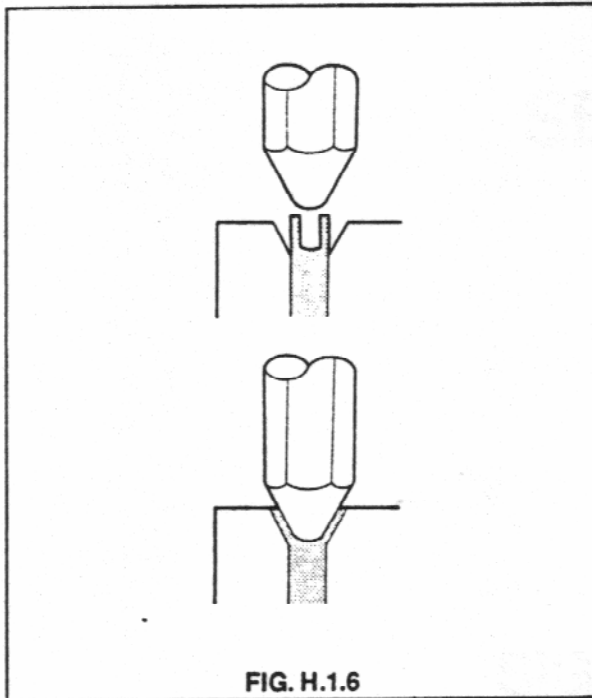

FIG. H.1.6
4. To replace the bipod head remove the legs in accordance with paragraph 2 above and remove the connector in accordance with paragraph 3 above. Refit legs and connector to serviceable head in accordance with paragraphs 2 and 3 above. See Fig. H.1.6.